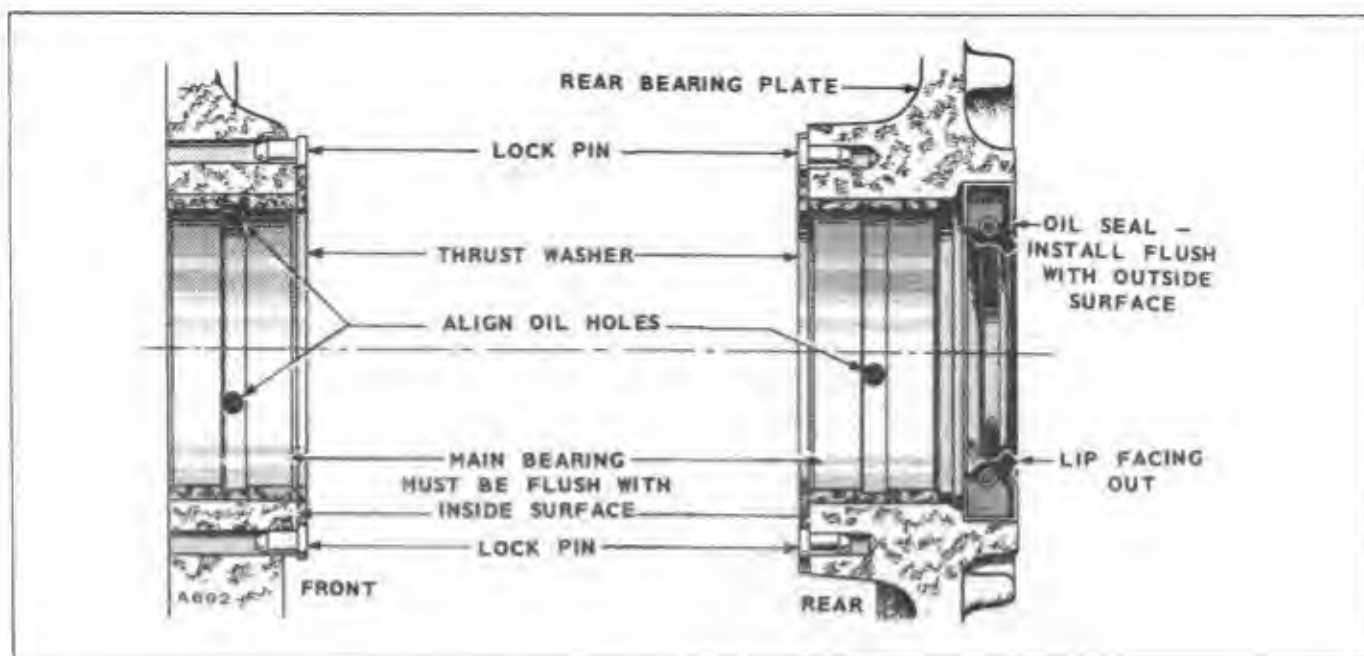

Figure 10. Main Bearing Installation
1. Press the front and rear main bearings into place, aligning the bearing and bearing housing oil holes. Do not attempt to drive a bearing into a cold block or rear bearing plate. (Fig. 10).